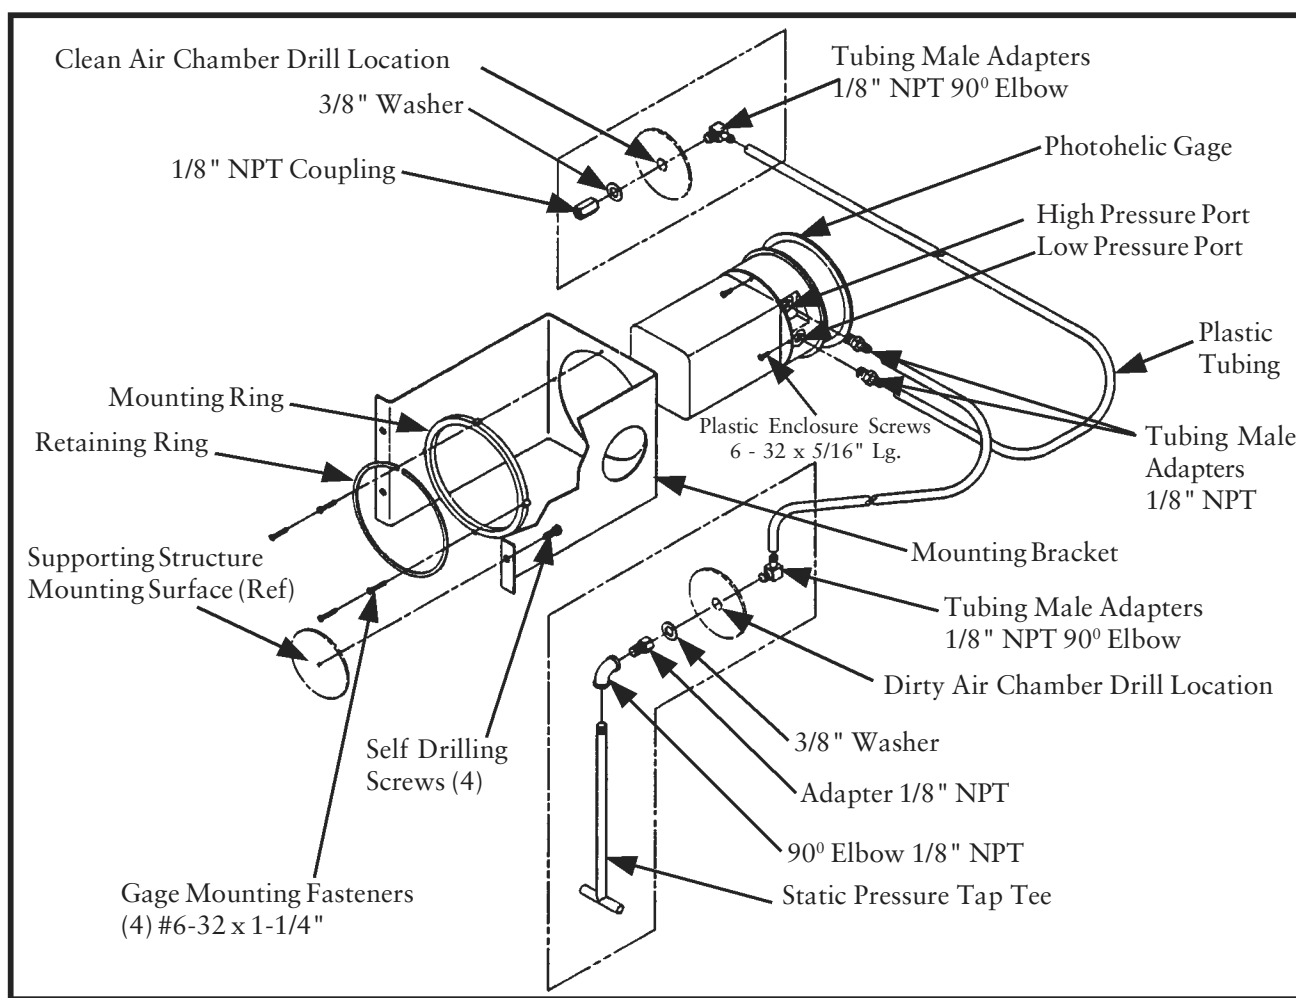
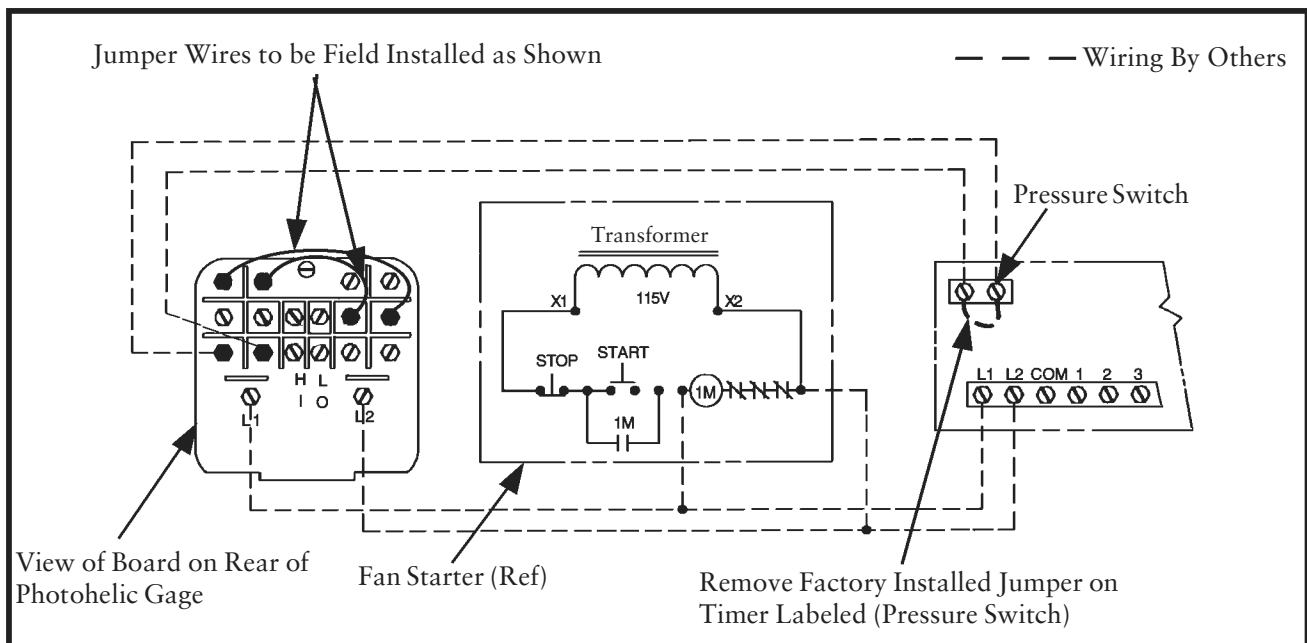

Figure 11
Figure 12
2.6.5 Photohelic Gage (See Figures 11, 12, and 13)
3. Remove the four #6 - 32 x 5/16" long screws and plastic enclosure on back of the Photohelic gage and set aside. Add the two jumper wires—supplied by customer—and wire the gage as shown in Figure 11, Photohelic Wiring Diagram, using 3/4" conduit opening. Reassemble plastic enclosure and fasten securely using the #6 - 32 x 5/16" long screws previously removed.
7. Refer to Figure 12, Photohelic Gage Wiring Diagram for the proper wiring of the Photohelic gage.
If a Photohelic or similar remote control device is used to control the solid-state timer, the valves will pulse only when the differential pressure reaches the high set point and will continue the pulse sequence until the low pressure set point is reached (see Figure 11, Installation of Photohelic Gage and Figure 12, Photohelic Gage Wiring Diagram).